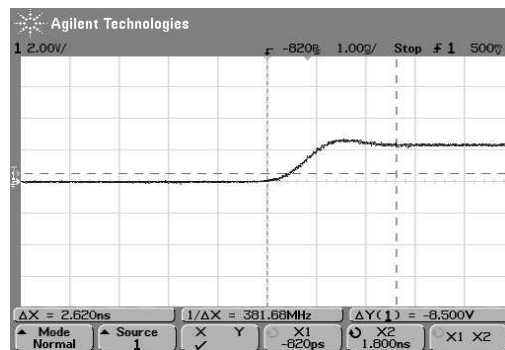
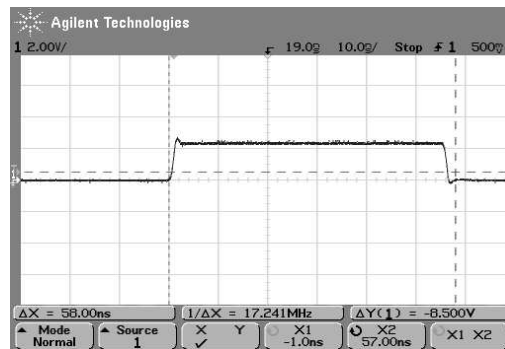

Figure 2: Measuring quench time of the PCM using an oscilloscope.
Figure 3: Measuring reset time of the photon counter using an oscilloscope.
- Use the cursors on the oscilloscope to measure quench time (see Fig. 2) and reset time (see Fig. 3). Decrease the time per division to increase the accuracy of the measurement.